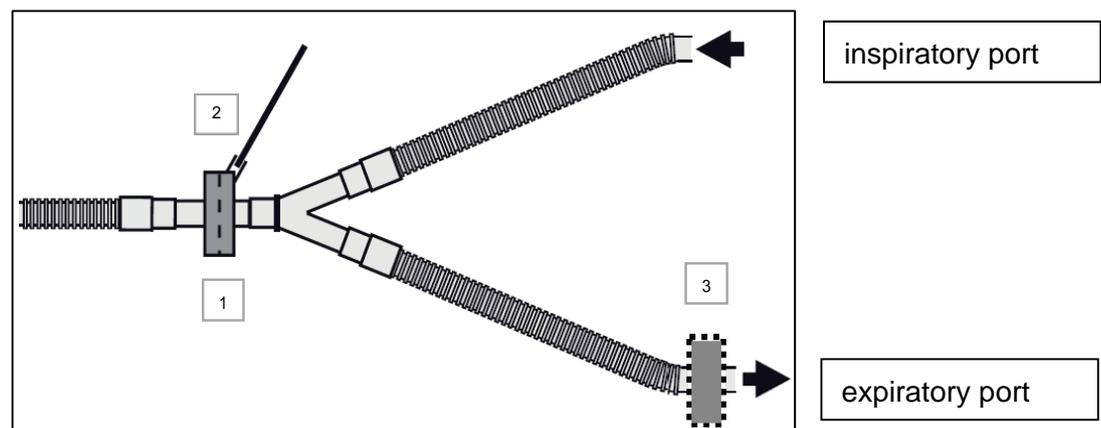

Figure 1: System setup recommendation for adult patients – tidal volumes > 300ml
- Use of a BSF or an HMEF with a mechanical filter medium such as SafeStar 55 (MP01790) or TwinStar HEPA (MP01801) between tracheal tube and the Y-piece of the breathing circuit (hoses) (see position 1/ figure 1).
Note: The gas sample line of the anesthesia machine must be connected on the device side of the BSF or HMEF (see position 2 / figure 1).
- Optional measure for enhanced safety: Place an additional BSF such as SafeStar 80 (MP01785) or SafeStar 55 (MP01790) at the expiratory port of the anesthesia machine (see position 3 / figure 1). This measure reduces the risk of contaminating the breathing system during daily disconnection and replacement of the BSF at the patient side.